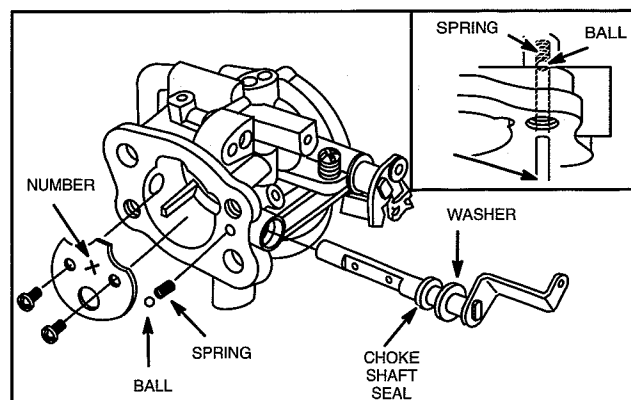

Fig. 37 – Install Choke Shaft
10. Push choke shaft into hole until ball engages groove in choke shaft, Fig. 37.
11. Install choke plate as shown, Fig. 37.